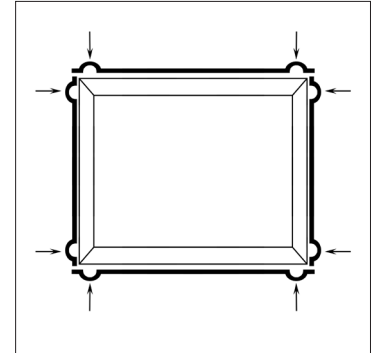

Fig. 1 – Tape application at corners
- If installing tape into a construction joint it may be applied either horizontally or vertically (from bottom to top.) However, when applying to a door or window frame the horizontal seals must be applied before the vertical ones (Fig. 1.) Tape must be applied with the adhesive side to the frame when working with fenestration but may be applied in any order when working with construction joints. In both cases do not stretch the tape. When working in damp or cold conditions a wood wedge should be used to hold the tape in position until it is expanded. Ensure the tape is recessed by a minimum of 2 mm. (Fig. 4.)